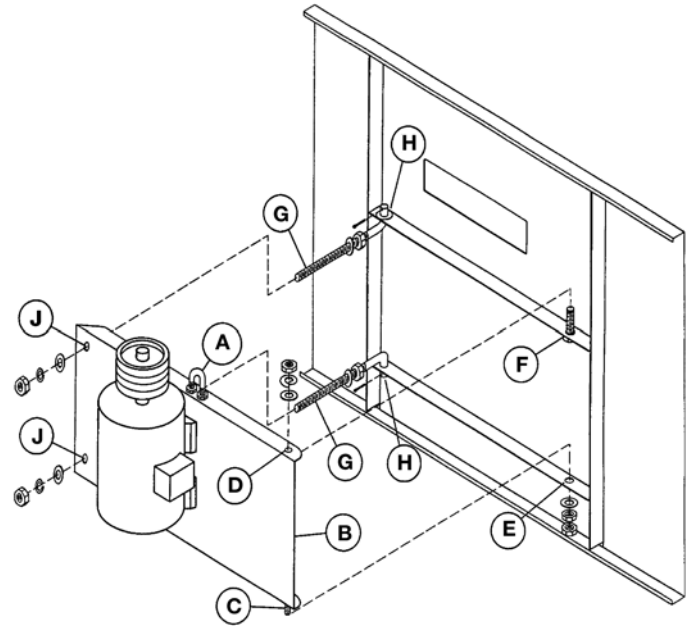

Figure 22 – External Motor Installation
1. Study Figure 22 before installing the motor base on the unit.